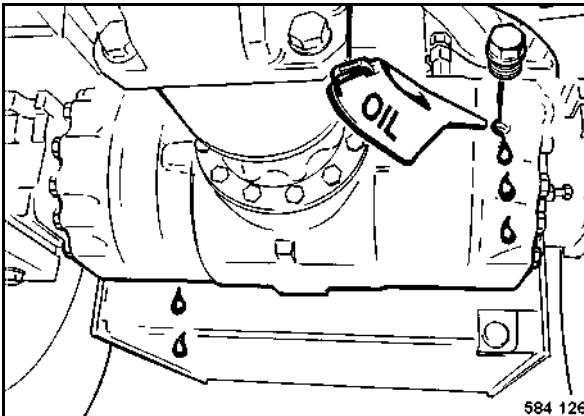

Fig. 87
- Fill in oil through the oil level inspection bores (Fig. 87), until it has reached the bottom edge of the bore.